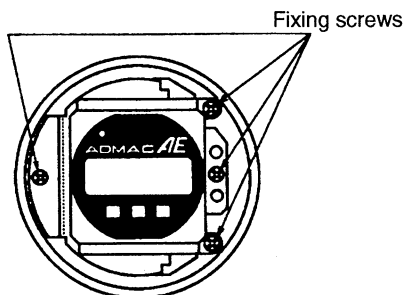

Figure 4.2.2 Positions of Fixing Screws
- (1) Turn the ADMAG AE or ADMAG CA power off.
- (2) Remove the cover of the converter.
- (3) Loosen the four screws (M4) which secure the amplifier as shown in Figure 4.2.2.